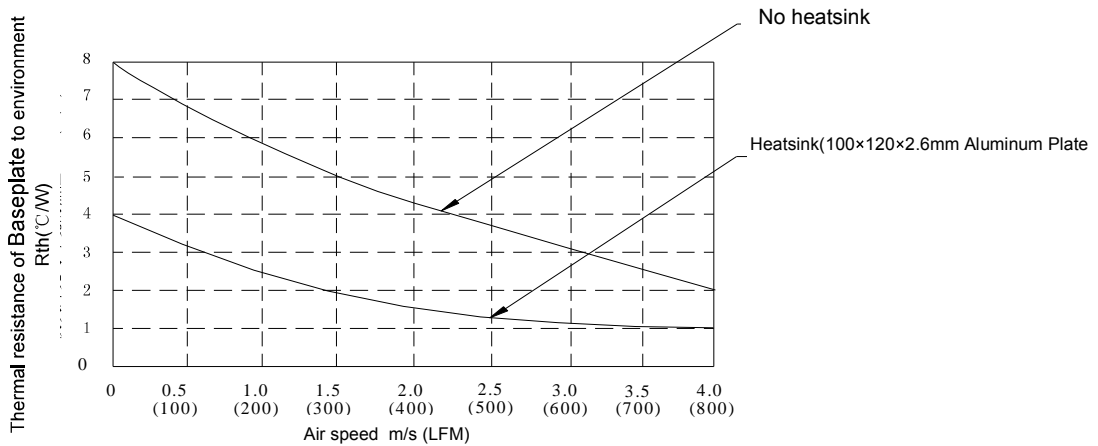

Figure 5. Thermal resistance of baseplate to environment VS Air Speed
- ii. According to the  $R_{th}$  above and Figure 5 – “Thermal resistance of substrate to environment VS Air Speed”, select the corresponding air speed value. It is required to consider the derating curve when determining the air speed in actual thermal design.